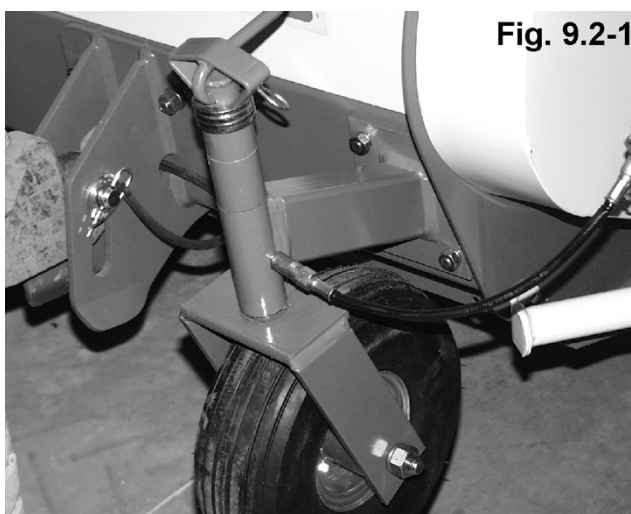

Fig. 9.2-4
- Rear cage roller bearing (Fig. 9.2-4).